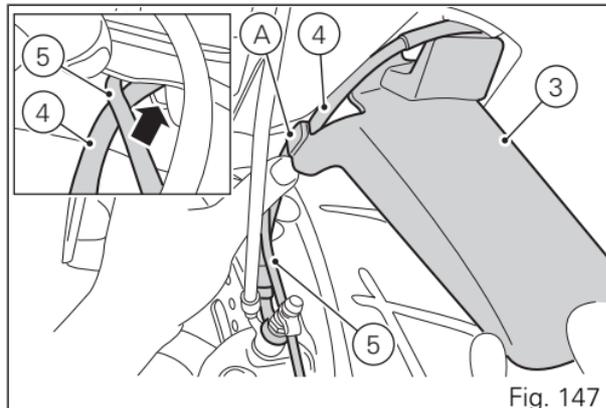

Fig. 147
Position the front semi-mudguard kit (3) on the front mudguard, housing the front brake pipe (4) and the front phonic wheel cable (5) as shown in the figure (Fig. 147).